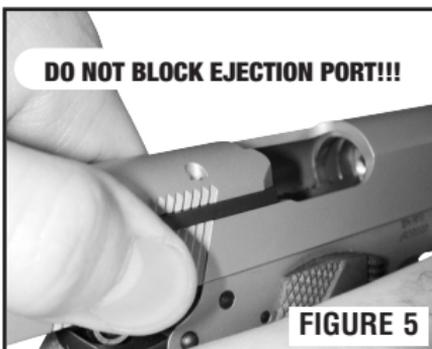

FIGURE 5
- Point the muzzle in a safe direction, grasp the serrated sides of the slide from the rear with the thumb and fingers as shown in FIGURE 5, and briskly draw the slide fully rearward in order to extract any cartridge from the barrel chamber and clear it from the pistol. Do not obstruct the ejection port because doing so can interfere with ejection of a cartridge.
- Check the barrel chamber and bore visually for any live rounds or obstructions (FIGURE 5).